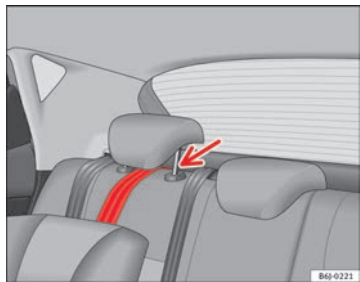

Fig. 34 Retainer strap: correct adjustment and fitting
- Guide the Top Tether fastening belt under the rear seat head restraint ⇒ Fig. 34 (lift the head restraint where necessary).